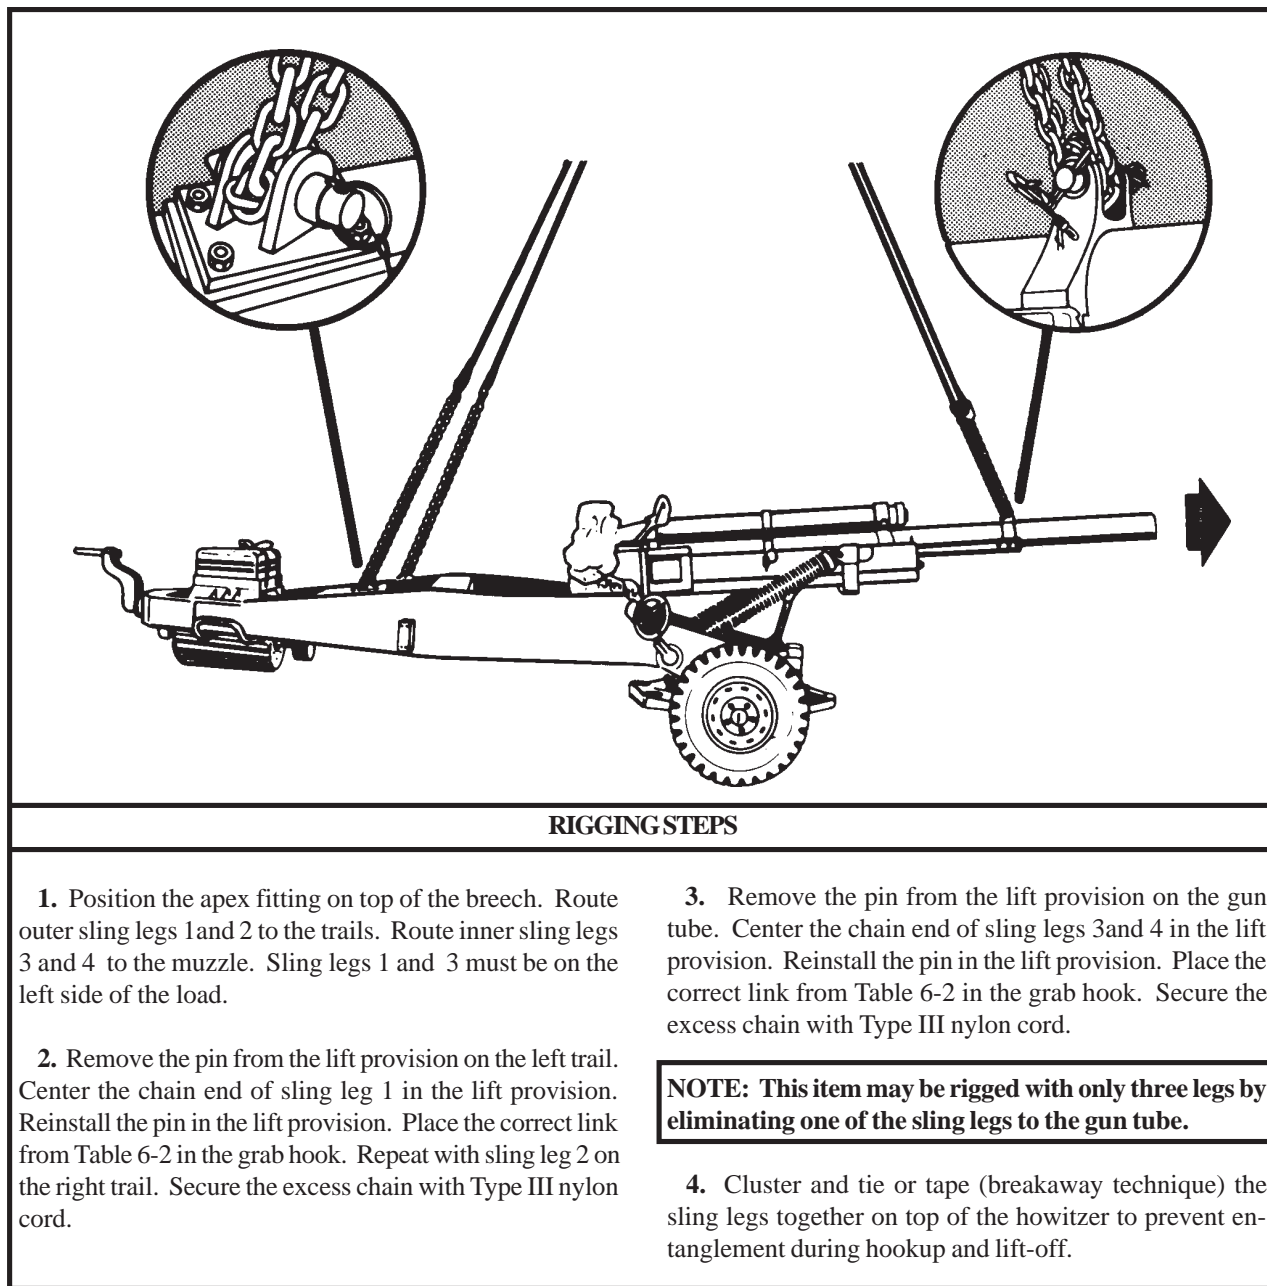

Figure 6-2. M102 105-MM Howitzer
(2) **Rigging.** Rig the load according to the steps in Figure 6-2.
(4) **Derigging.** Derigging is the reverse of the preparation and rigging procedures in steps d (1) and d (2).